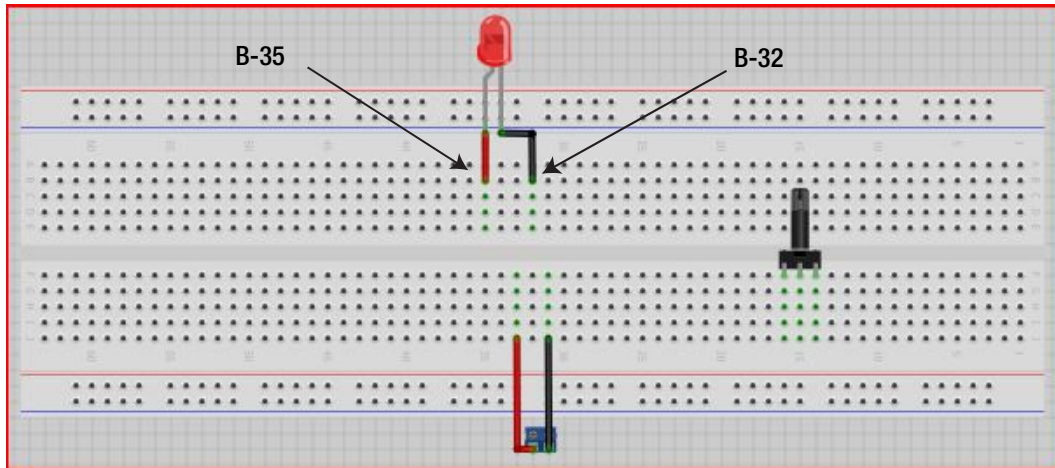

Figure 23-4. Attach the LED to the breadboard
3. Now attach the red LED to the breadboard; the positive anode (long leg) should be connected to B-35 and the negative cathode (short leg) should be connected to B-32. Figure 23-4 illustrates this process.